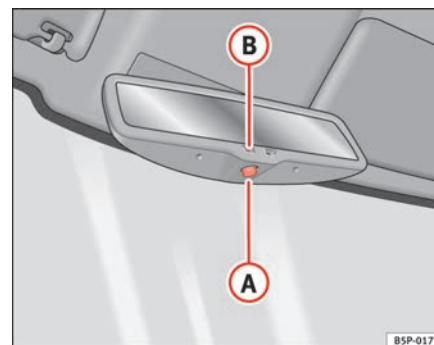

Fig. 88 Automatic anti-dazzle interior mirror.
- Press button **A** ⇒ fig. 88. Warning lamp **B** goes out:
- Press button **A** ⇒ fig. 88. Warning lamp is lit.